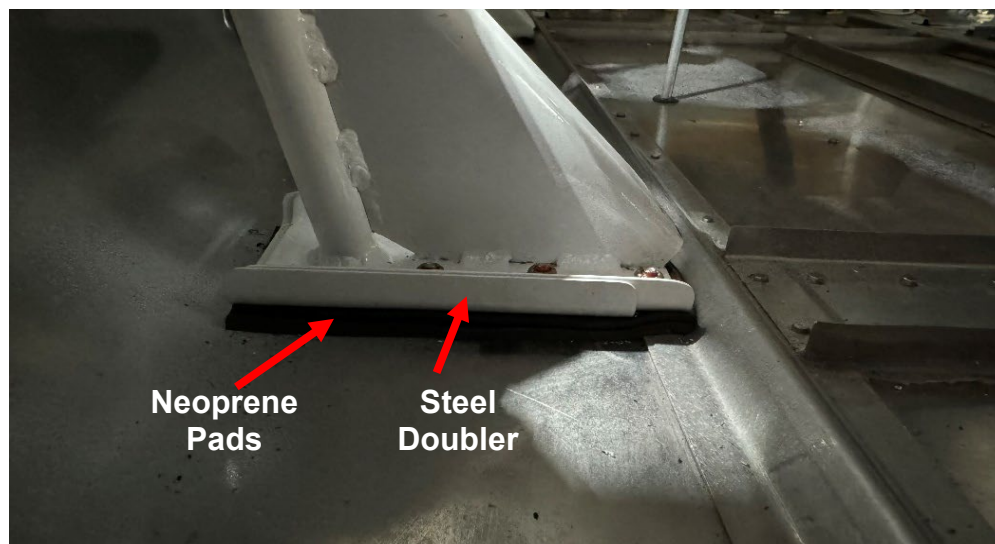

Figure 9-4.3d
9. Place appropriate thickness of neoprene padding to fill space between belly skin and standoff. (Reference Figure 9-4.3d)
10. Locate the edge of standoff foot at radius of doubler and on pads. (Reference Figure 9-4.3d)